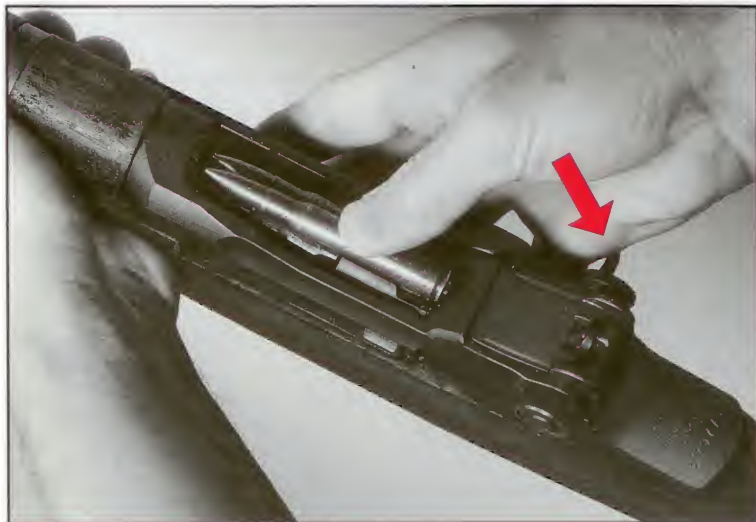

Fig. 6 – Loading a partial clip. Hand blocks, but is not pressing back on the operating rod handle (see arrow).
- Keeping the knife edge of your right hand in front of the operating rod handle, palm beside the stock, whenever you want the bolt to stay open and any part of either hand is in the receiver opening. This position (Fig. 6, page 14) will block any unexpected closure and allow you to securely exert rearward pressure on the handle when required.
Hold the rifle as described for loading a full clip, with bolt latched open. Drop an empty clip into the magazine. Place the first cartridge into the clip, on either side of the follower slide. Press a second cartridge into the clip on the opposite side, exerting a downward rolling motion with the thumb toward the center of the clip until the cartridge snaps in place (Fig. 6). Continue inserting cartridges in this manner, with the knife edge of the right hand in front of (but not pressing back on) the operating rod handle to guard against injury to the thumb if the bolt is inadvertently unlatched during this manipulation. The number of cartridges that can be so loaded depends on one's dexterity.